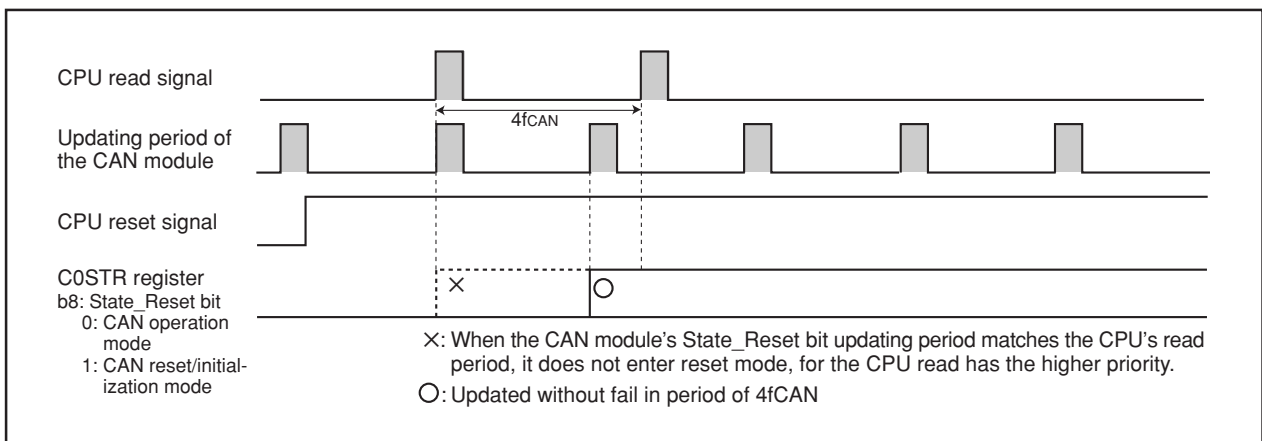

Figure 22.7 When Polling Period of CPU is 3fCAN or Longer
- (b) When the CPU polls the C0STR register, the polling period must be 3fCAN or longer. (See **Figure 22.7 When Polling Period of CPU is 3fCAN or Longer.**)